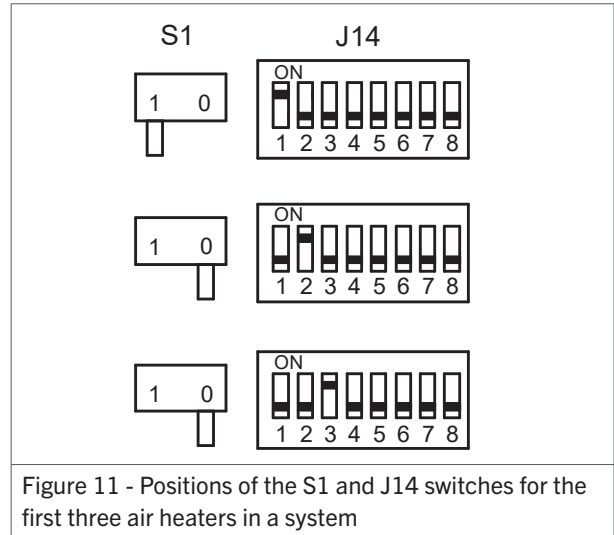

Figure 11 - Positions of the S1 and J14 switches for the first three air heaters in a system
1. Set the S1 and J14 switches on the control unit as follows (figure 11):